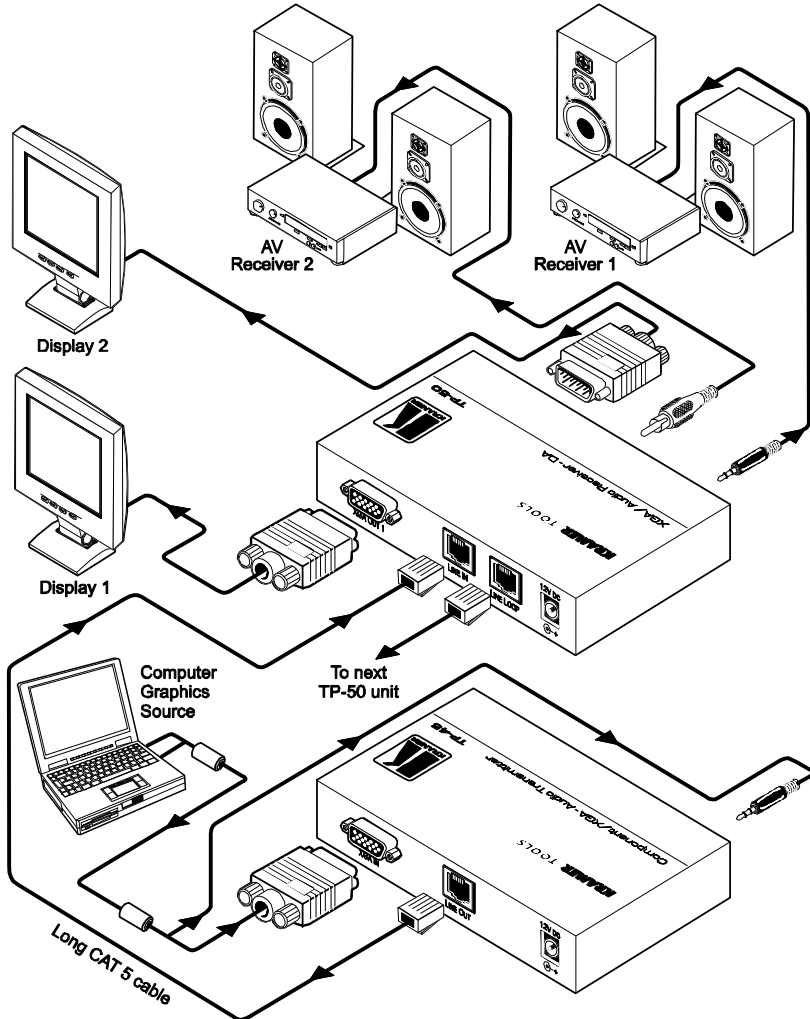

Figure 3: Component/XGA – Audio Distribution System, XGA Mode
To configure a **TP-45 / TP-50** XGA / Audio Line Receiver – DA system² as illustrated in the example in Figure 3, do the following:
4. Connect the 12V DC power adapter to the power socket and connect the adapter to the mains electricity on both⁶ the **TP-45** and the **TP-50** (not shown in Figure 3).